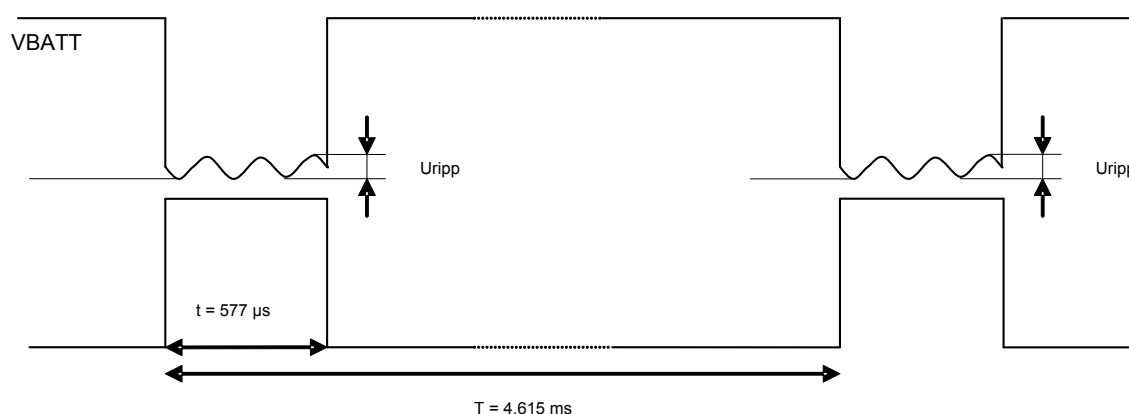

Figure 2. Power Supply During Burst Emission
- A GSM/GPRS class 2 terminal emits 577 μ s radio bursts every 4.615ms. (See Figure 2 Power Supply During Burst Emission below.)